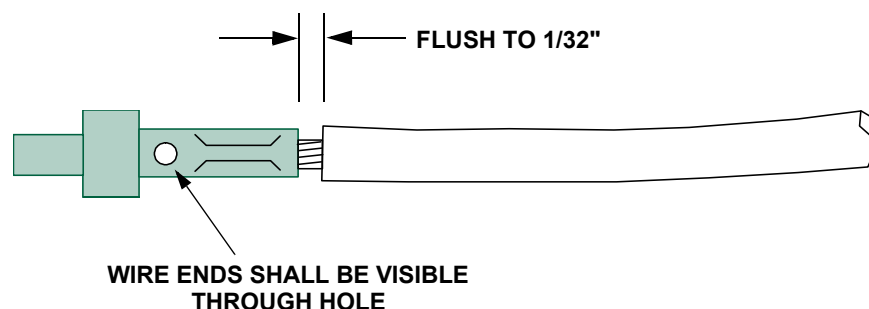

FIGURE 10 - TERMINAL JUNCTION DISCONNECT SPLICES
- Step 5. Insert the stripped wire end into the contact barrel until the insulation butts against the end of the barrel. Ensure that the stripped wire end is visible through the contact hole (see Figure 10).